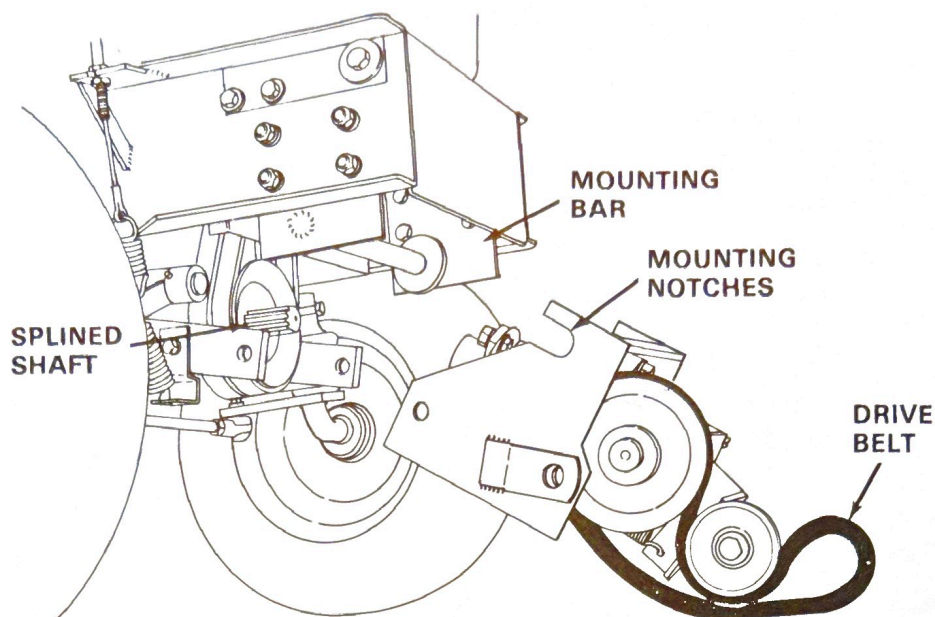

FIGURE 9
6. See Figure 9. Apply a small amount of anti-seize compound to the splines to permit easier removal. Loosen the bolts securing the gear box to the bracket (if not already loose). Align the splines. Slip the bracket into position with notches over the mounting bar. Install the clevis pins in the mounting holes from the inside and secure with the hair pins.